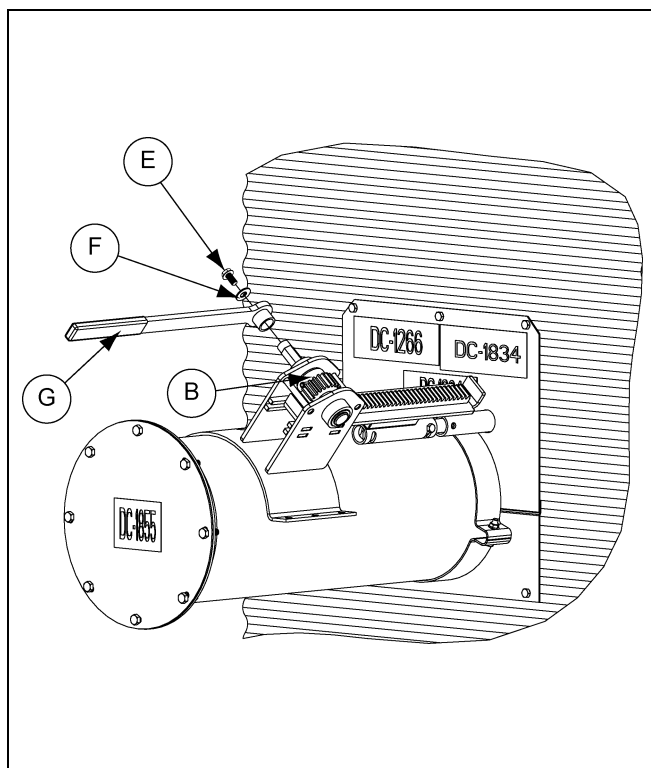

Figure 2
4. Slide wrench (G) assembly over shaft on rack and pinion. Make sure the collar faces the gears. Fasten down with 3/8" flat washer (F) and 3/8" x 3/4" hex bolt (E). *(See Figure 2 on Page 2.)*